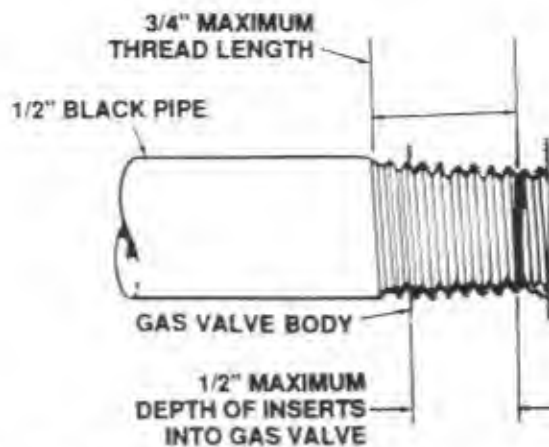

Figure 6. Gas Valve Connection Requirements
- Male threads on pipe to be installed into gas valve shall meet the requirements of Figure 6. Threads longer than those shown in the figure may cause gas valve distortion and malfunction.
Failure to ensure that male threads on pipe to be installed into gas valve meet the requirements of Figure 6 may cause gas valve damage, distortion, and malfunction.